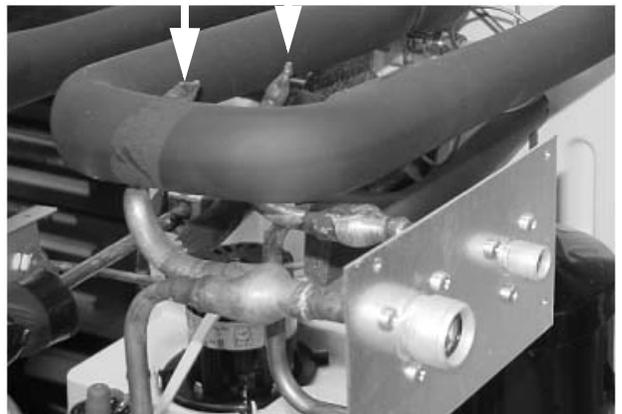

Figure 40.
39. Pinch off and braze shut the charging ports behind the Aeroquip fittings (Figure 40).